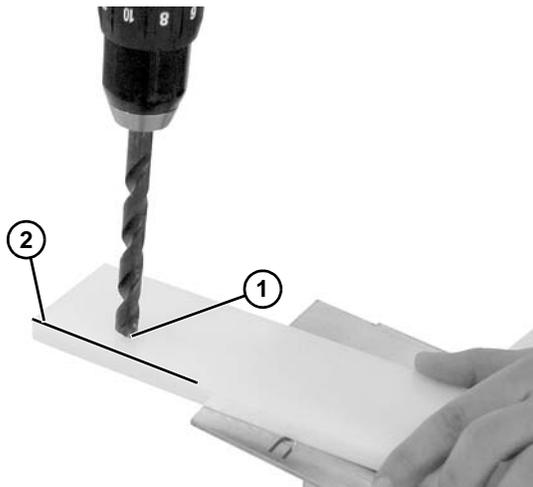

Figure 35
2. Drill 1/2" holes (**Figure 35, item 1**) .515" from bent edge (**Figure 35, item 2**) at tab locations.